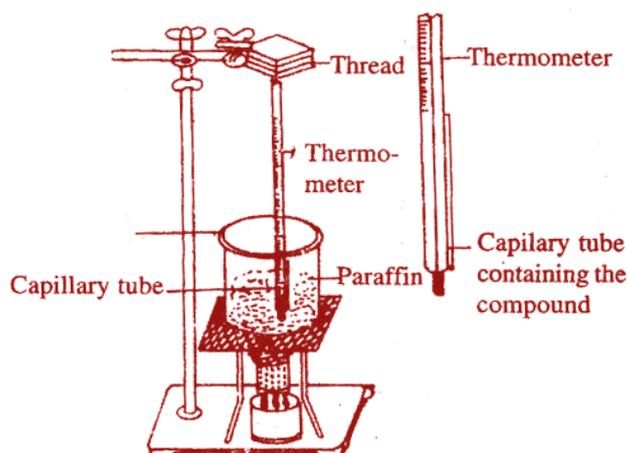

Fig. 5.2 : *Determination of melting point*
5) Take a thermometer and dip it in the paraffin bath so as to wet its lower end. Bring the capillary tube near to the wet end and spread a thin film of paraffin oil on one side of capillary tube. Bring the wet side of the capillary tube in contact with the thermometer. The capillary tube sticks to the thermometer due to the surface tension of paraffin. (Fig. 5.2). Now hang it on a clamp such that its bulb dips completely in the liquid paraffin but the open end of capillary is above it.